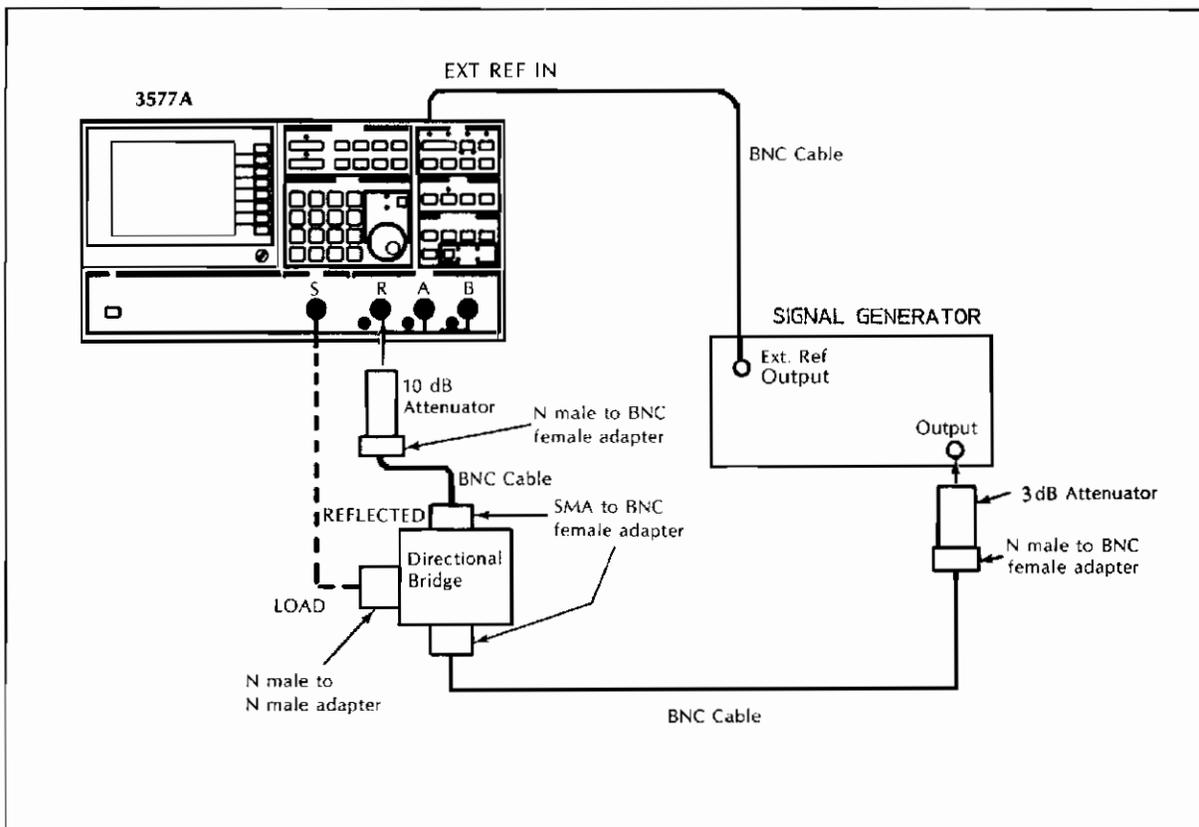

Figure 3-1 On Carrier Return Loss Test Set-Up
- c. Connect the equipment as shown in Figure 3-1 except leave the HP 3577A source to directional bridge unconnected. (3577A EXT REF LED should be on.)
- i. Connect the 3577A source to the directional bridge load port using an N male to N male adapter as shown in Figure 3-1.